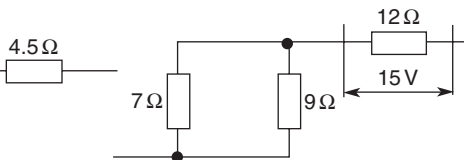

Fig. 24
7. Calculate the current in each resistor in Figure 24.